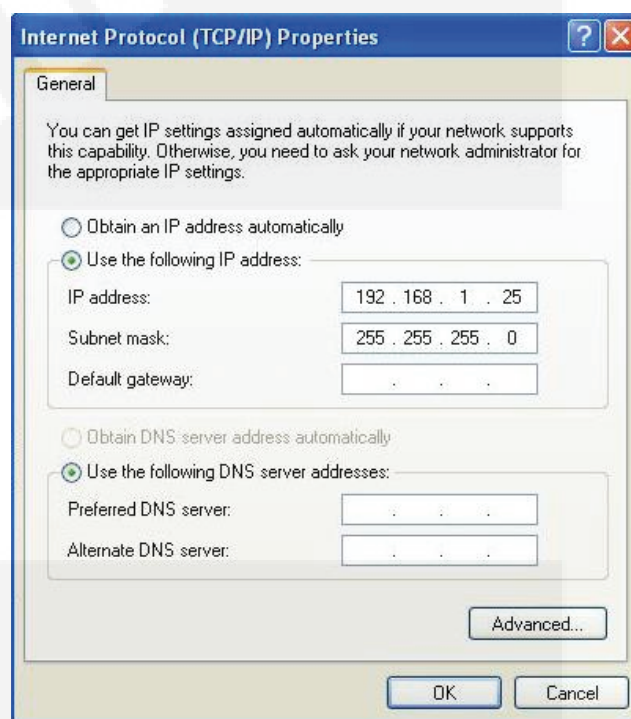

FIGURE 4-10. INTERNET PROTOCOL PROPERTIES
5. Fill in the IP address and subnet mask as shown in Figure 4-10.
The example in Figure 4-10 assigns .25 to this PC. You may use numbers between 25 and 253. You may not use an address already assigned to another device on the same subnet. Therefore, you may not use .222, because it is already assigned to the iLon.